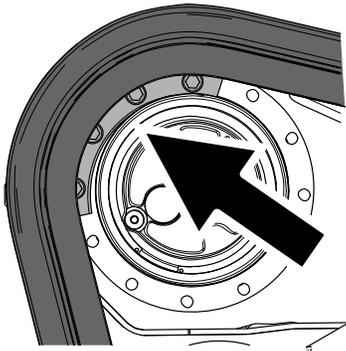

Figure 74
5. Move the traction control forward until the drive sprocket segment engages with the track (Figure 74).
10. Apply thread-locking compound to the bolts of the other drive sprocket segment that you removed and install the sprocket segment (Figure 74). Torque the bolts to 247 to 301 N·m (182 to 222 ft-lb).